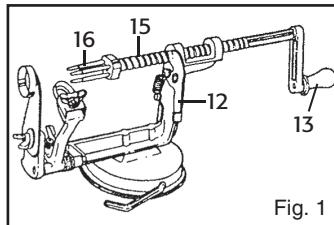

Fig. 1
1. Remove the shaft (15) by pressing the shaft lever (12) and then pulling the shaft slightly upwards.
2. Hold the shaft and attach the handle by screwing it onto the shaft. Attach the fork (16) in the same manner. The apple peeler should now resemble fig. 1.